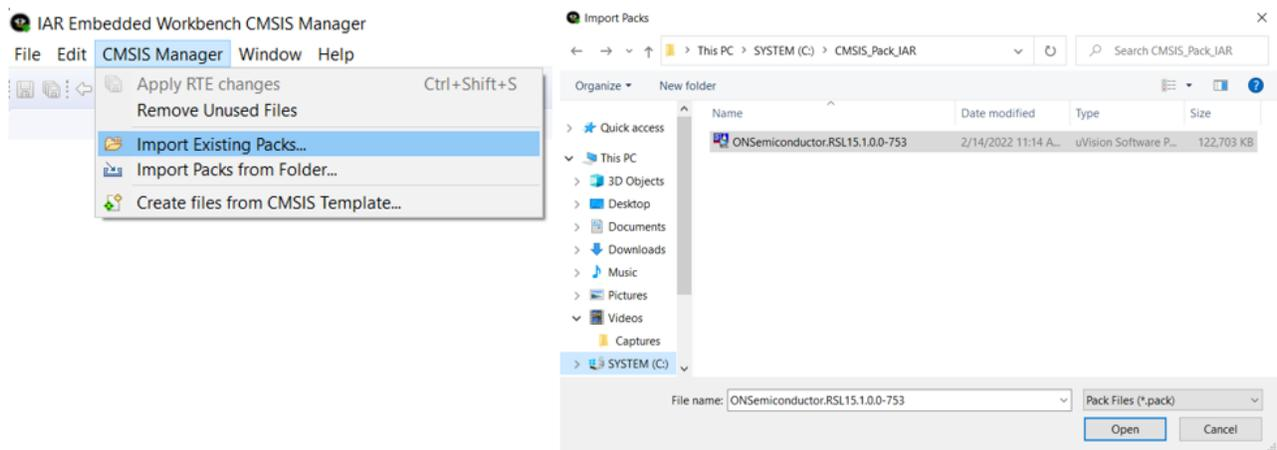

Figure 33. Installing the RSL15 CMSIS_Pack for the IAR Embedded Workbench IDE
3. Click on **CMSIS Manager > Import Existing Packs**, select your pack file *ONSemiconductor.RSL15.<version>.pack*, and click **Open** (see the "Installing the RSL15 CMSIS_Pack for the IAR Embedded Workbench IDE" figure (Figure 33)). <version> is the RSL15 version.